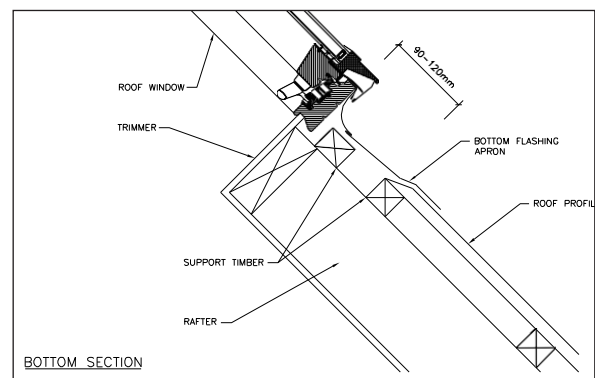
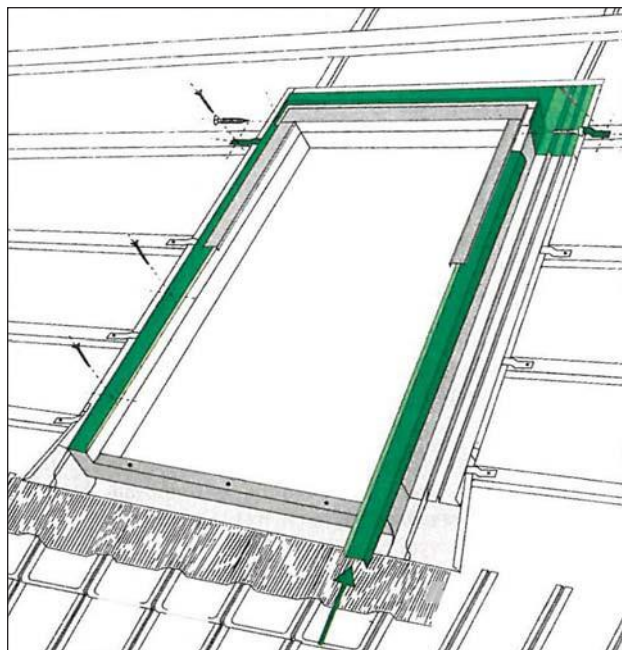

Fig 2
Fig 16
- 90 -120mm for concrete tiles (Fig 2).
- 90 -120mm for corrugated sheets (Fig 2).
- 18) Slide on the flashing covering the frame sides and screw them to the frame. Put on the top flashing (4), nail it to the battens using the metal straps and screw it to the frame side (Fig 16).
- 19) In order to ensure wind-tightness stick the self-adhesive sponge-seal (5) to the flashing and cut them to fit the shape of the gap. Put the missing roofing materials in place keeping the required distance from frame.
- 20) See Fig 16: Fit the bottom sheet of iron, first making sure it is 90-120mm away from the bottom edge of the skylight timber frame (see Fig 2).